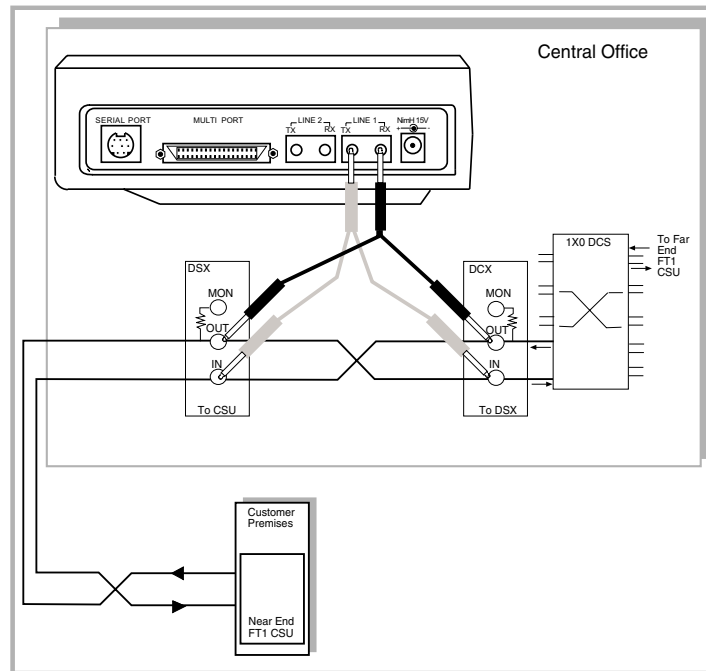

Figure 182 Plugging into the FT1 Circuit
3. Connect the SunSet T10 to the circuit as shown in Figure 182.